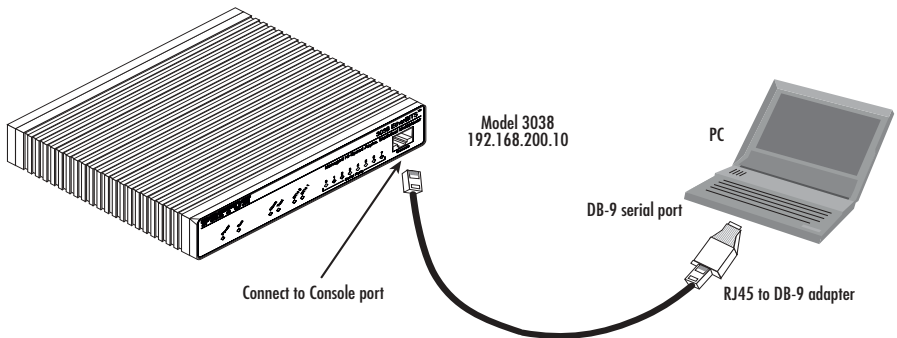

Figure 4. Connecting to the PC's Console port
1. To access the configuration via the console port, connect the DB9-RJ45 adapter to the DB-9 serial port on the PC or dumb terminal. Use the RJ45 straight-through cable between the adapter and the console port on the 3034/3038. (see figure 4).